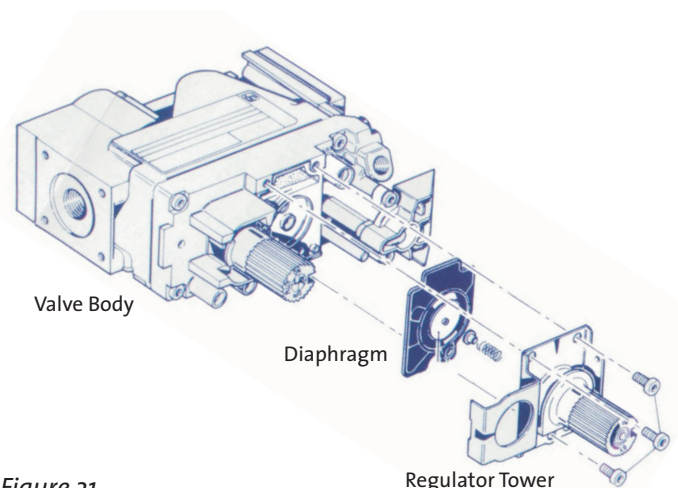

Figure 31. Regulator tower replacement.
11. **Replace the Valve Regulator.** Using a Torx T-20 screwdriver, remove the screws from the front of the regulator. Remove the regulator components and replace with the one from the conversion kit. See fig. 31.